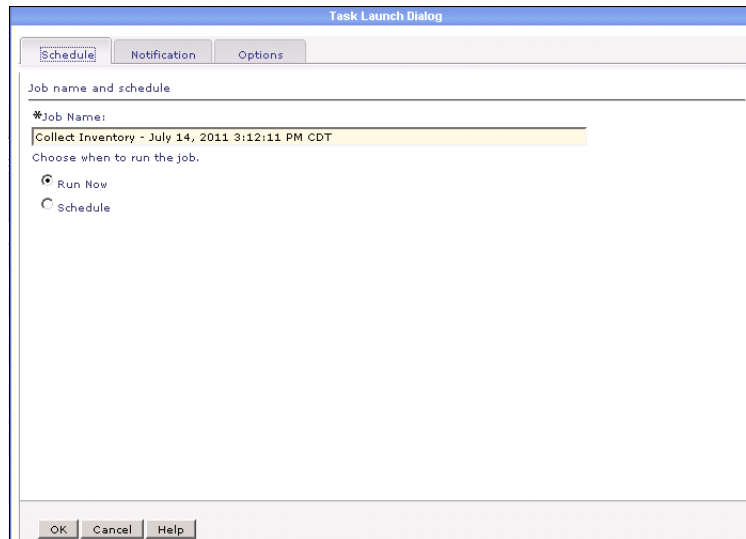

Figure 3-94 Task Launch Dialog
6. Use the Task Launch Dialog box that is opened to verify the name of the inventory, and time for running it, as shown in Figure 3-94.